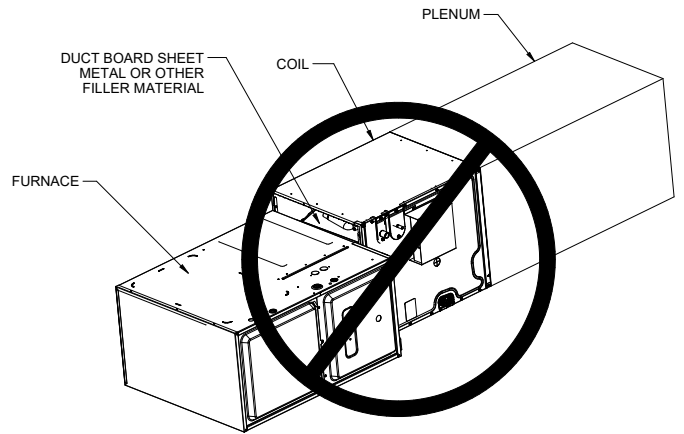
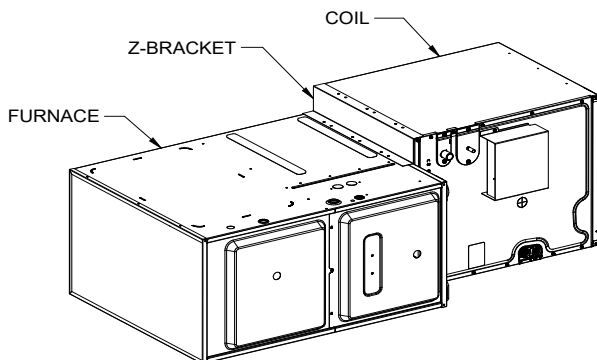

Figure 5D
Figure 5C
There is no conversion required to reverse from right to left application. Attach the duct flanges to the discharge side of the unit. If the coil and furnace combination are not similar in depth and width, use a field-supplied transition to center the furnace and coil openings (see Figure 4B). The supplied Z-bracket attachment should be used to attach the coil to a narrower furnace with the furnace is one size smaller than the coil (example: coil width is 21.0" and furnace width is 17.5". See Figure 5C). Figure 5D indicates incorrect coil furnace attachment method.
2. Please use Z-Bracket provided with units to fill the transition gap between furnace & coil when coil is one size larger than furnace. Additional gaps must be filled with insulated tape or putty to prevent air leakage Figure 5D indicates incorrect coil/furnace attachment method.